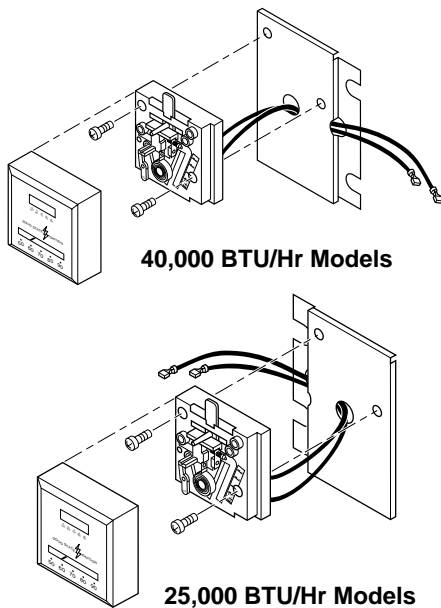

Figure 4 - Attaching Thermostat to Thermostat Mounting Plate
4. Route thermostat wires through slot/hole in side of thermostat mounting plate. Then route wires through 5/8" diameter hole in center of plate (see Figure 4, page 6).
- Attach thermostat to thermostat mounting plate with screws provided (see Figure 4). **IMPORTANT:** Note mounting plate position in Figure 4. Correctly position mounting plate for your model furnace.